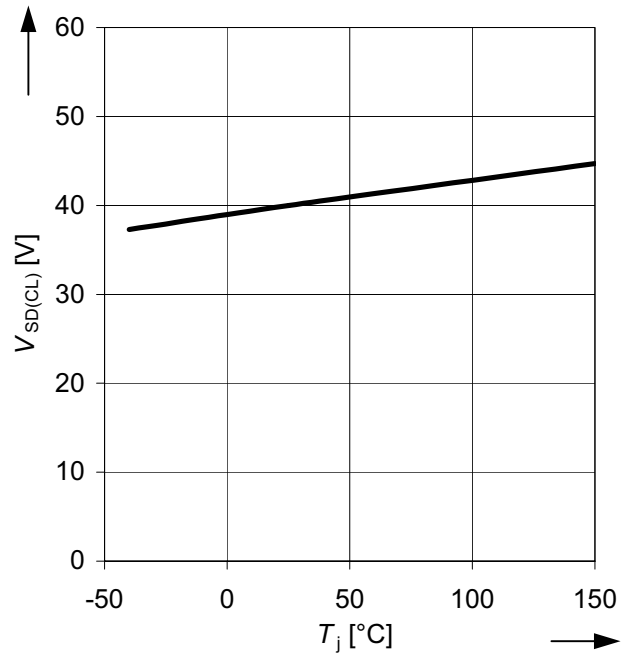

Figure 30 Typical output voltage drop limitation $V_{SD(CL)}$ as a function of the junction temperature T_j
4) See Figure 30 for typical temperature dependency.